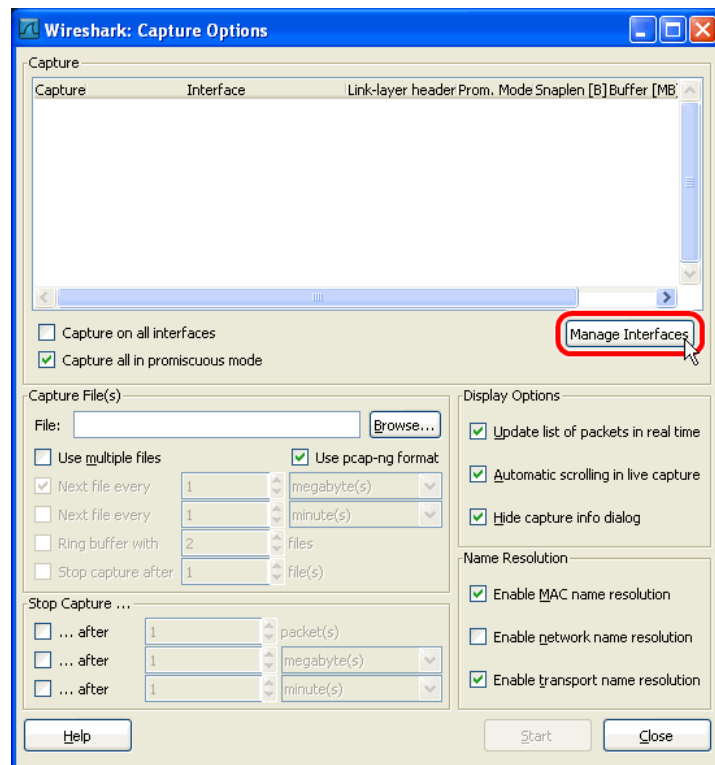

Figure 160: Wireshark Capture Options Dialog.
1. Open Wireshark and choose the menu **Capture → Options...**. This opens the **Capture Options** dialog as shown in Figure 160.